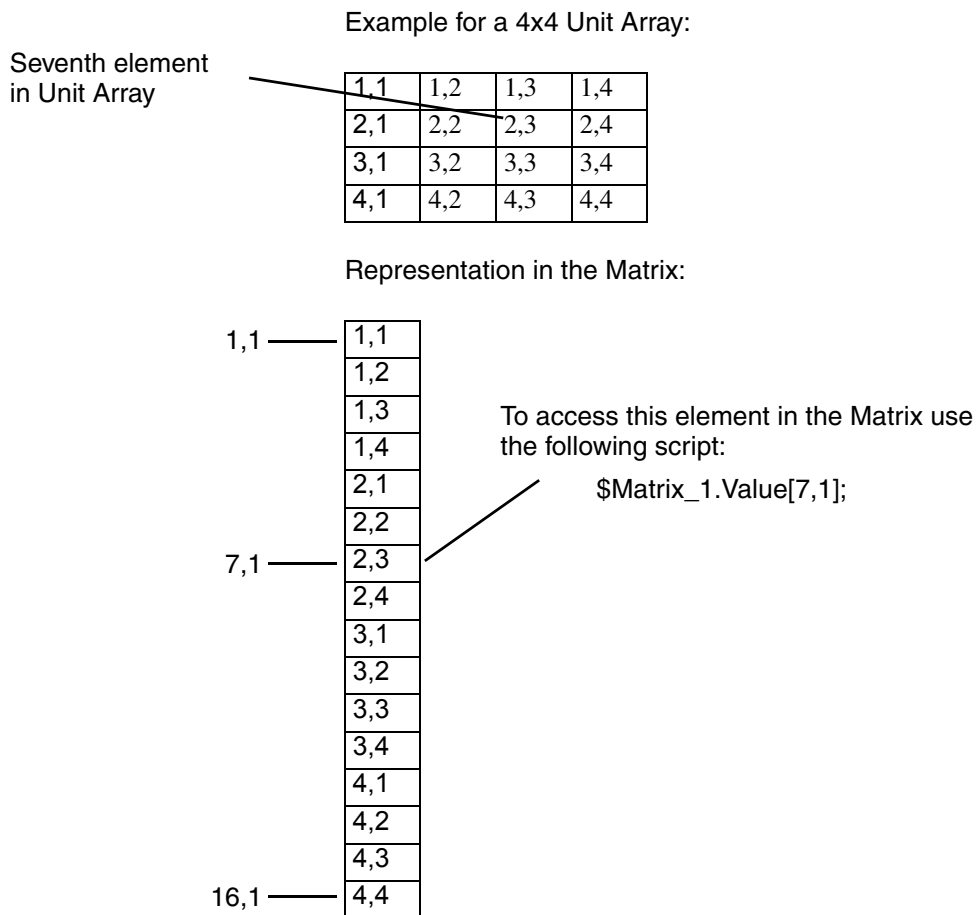

Figure 78. Working with Data from Unit Array
from the Matrix element you will need to equate the Matrix row number to the corresponding row, column position in the Unit Array. This is illustrated in Figure 78 in *Reading Unit Array Data From the Matrix Display Element*.
Data from a Unit Array are stored in a single column in a Matrix element. To equate a Matrix row number with the corresponding Unit Array row/column position, assign each element in the Unit Array a row number in the Matrix starting with one (1) and increasing as you read from the unit array from left to right. This is illustrated in Figure 78.